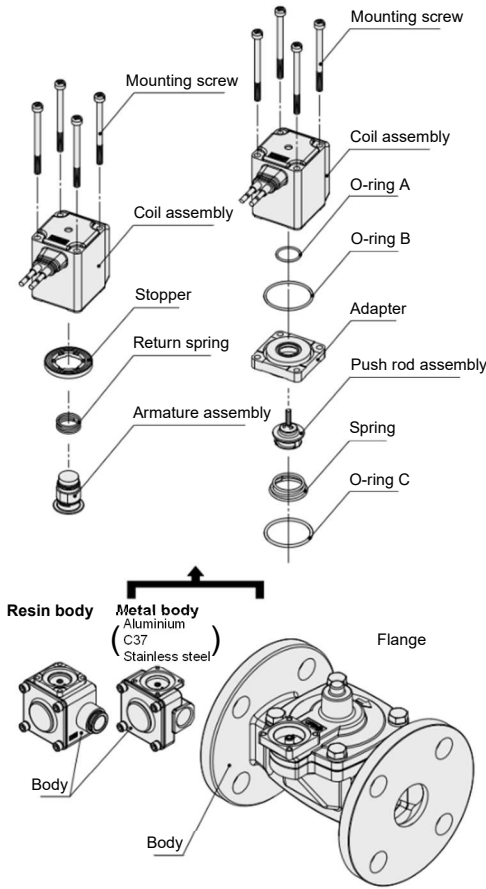

Figure 17.
2) Push the coil assembly against the body and tighten the screws two or more rounds diagonally (Fig. 6) in the status that there are no gaps between the coil assembly and body (Fig. 17).